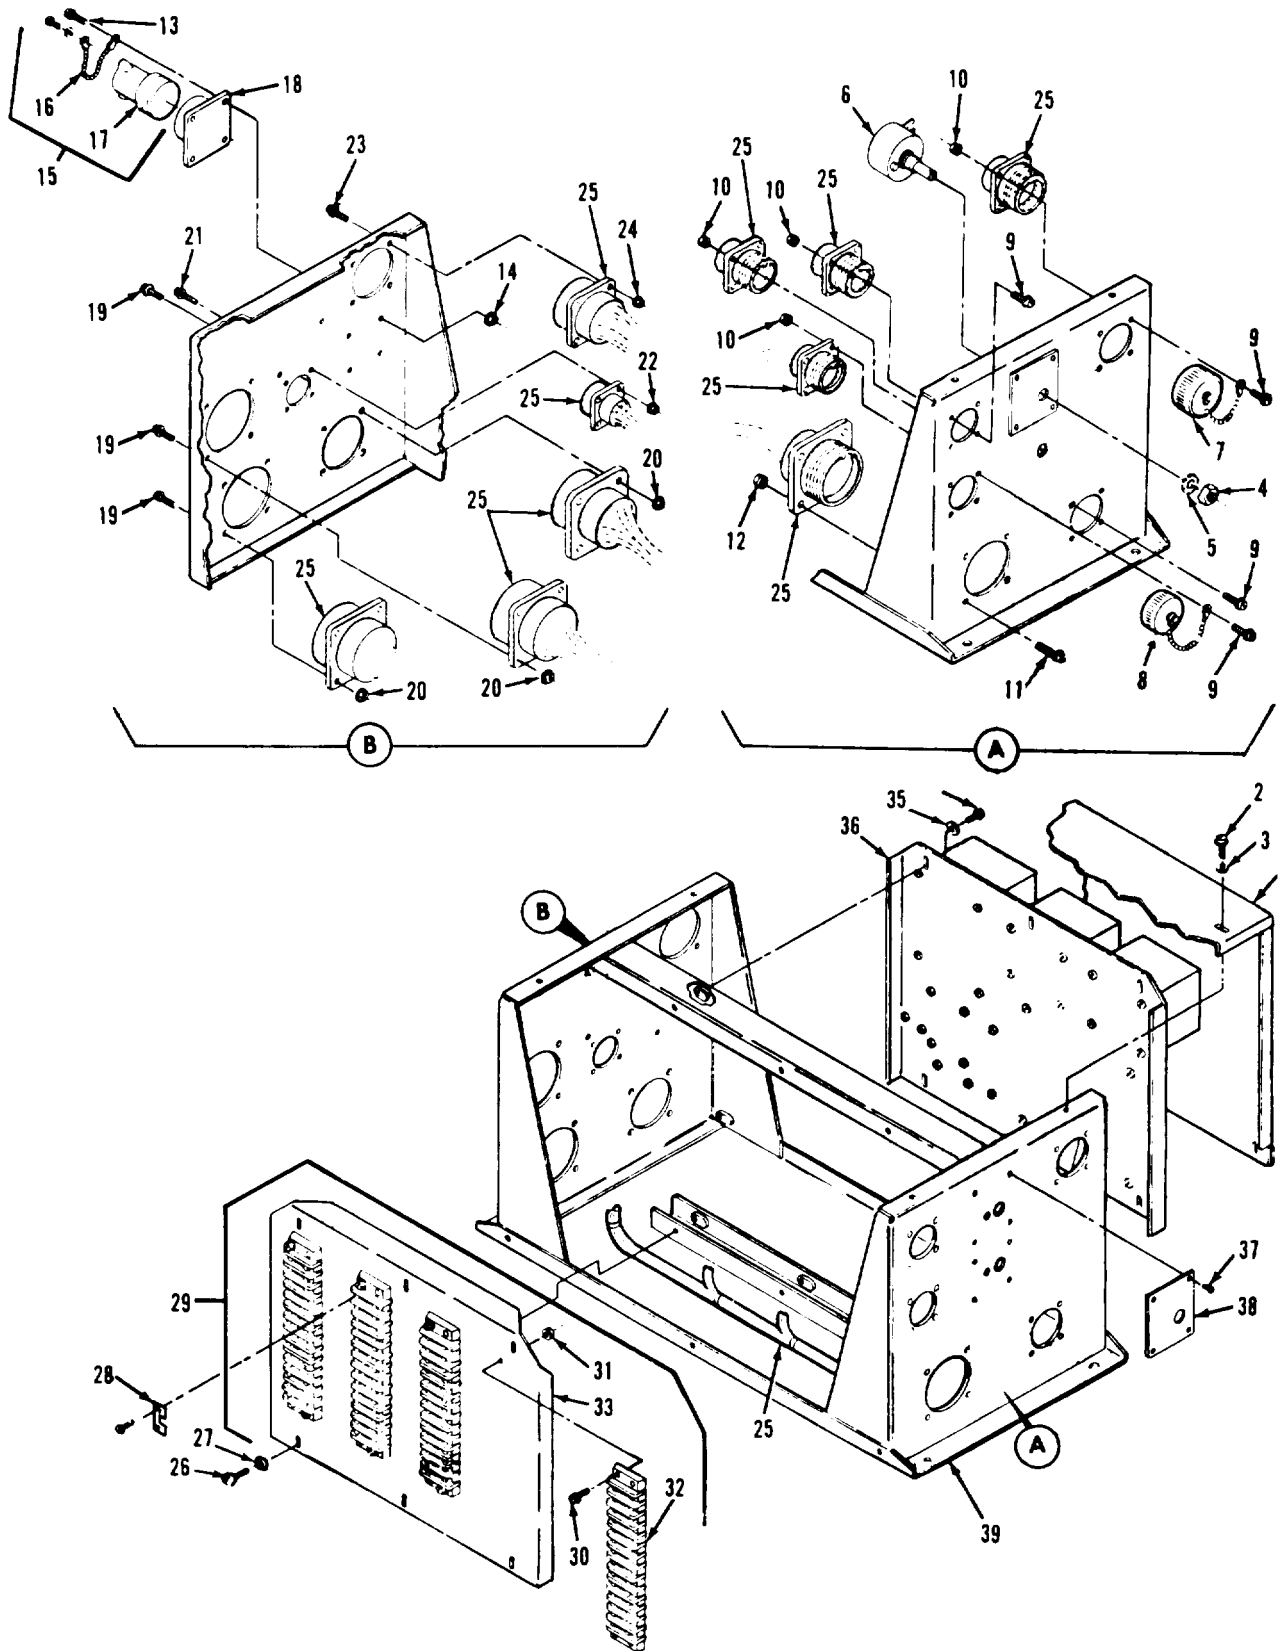

Figure 6-26. Mode I relay box assembly (A-27), exploded view
e. Remove nut (4, figure 6-26) and washer (5) securing rheostat (6) to chassis assembly (39).
f. Remove wire harness (25) by removing the four screws and nuts securing each of the ten connectors to the chassis assembly (39).
6-102. REASSEMBLY. Refer to figure 6-26 and reassemble the mode I relay box assembly in reverse order of index numbers assigned. Pay particular attention to the following:
c. Install wire harness (25, figure 6-26) in chassis (39) and secure in position with four screws and nuts at each of the ten connectors.
Legend to figure 6-26:
f. Secure cover (1, figure 6-26) to chassis assembly (39) using ten screw assemblies (2) and washers (3).